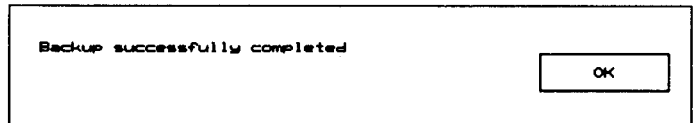

Figure 2-8. "Backup completed" message.
5. Select **OK** from the **Backup design** window. The ESP design environment makes a backup copy of the selected design in the disk or directory specified. The message shown in figure 2-8 displays.